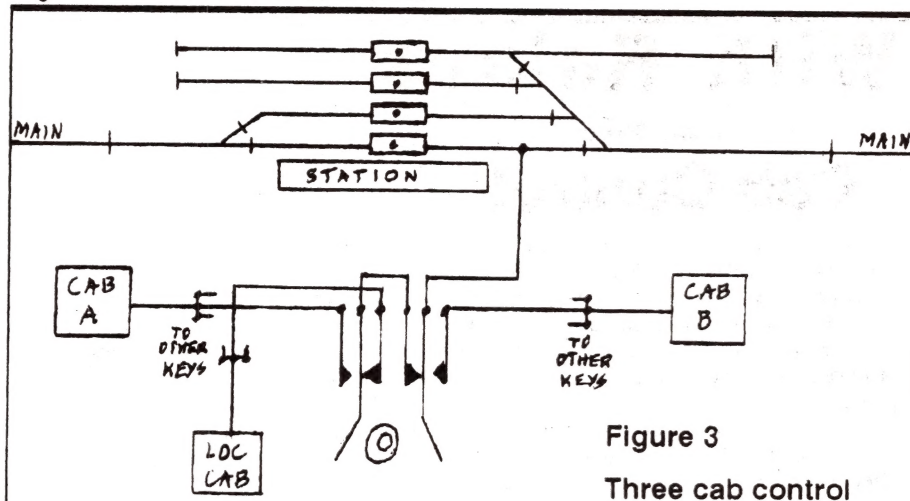

Figure 3
3. Wire the key switches as shown in Figure 2 (for two controllers) or Figure 3 (for station sections where a third controller can shunt).
In Figure 3, I have shown a typical station area. These switches are wired a little